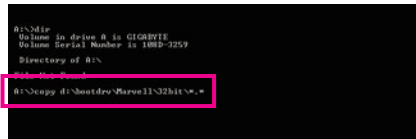

Figure 2
- For the Marvell 9128, type (Figure 2):^(Note)